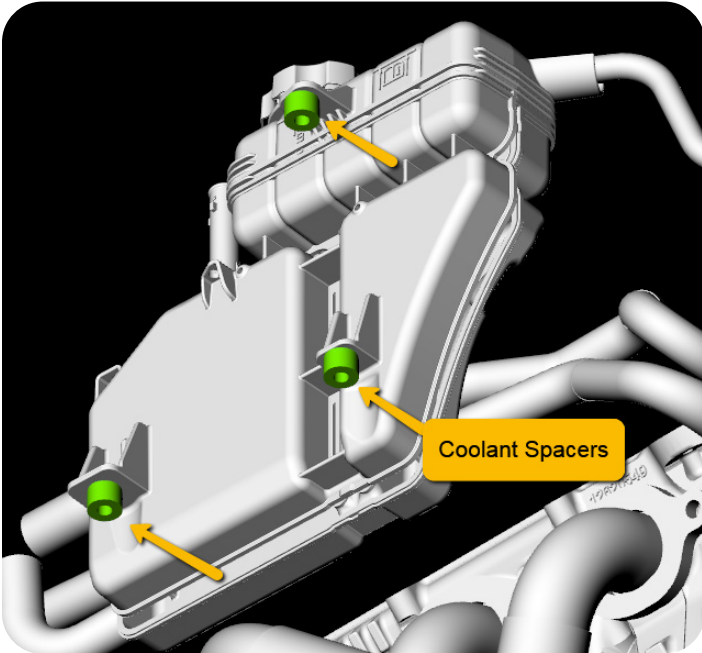

Figure.1
- Install included spacers on studs for coolant overflow tank. Re-install overflow tank and re-connect hose. - **See FIG.1**